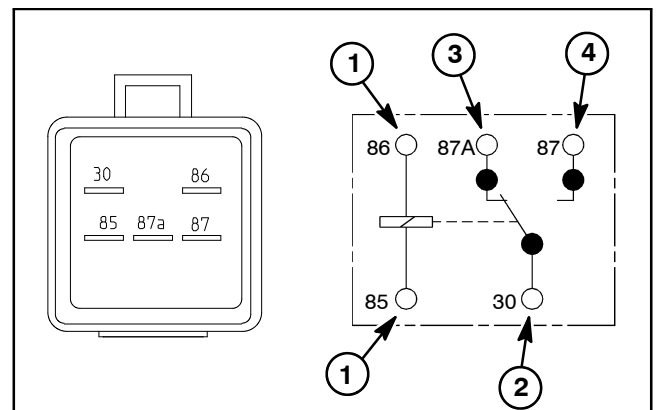

Figure 63
3. Using a multimeter (ohms setting), measure coil resistance between terminals 85 and 86 (Fig. 63). Resistance should be between **70 and 90 ohms**.